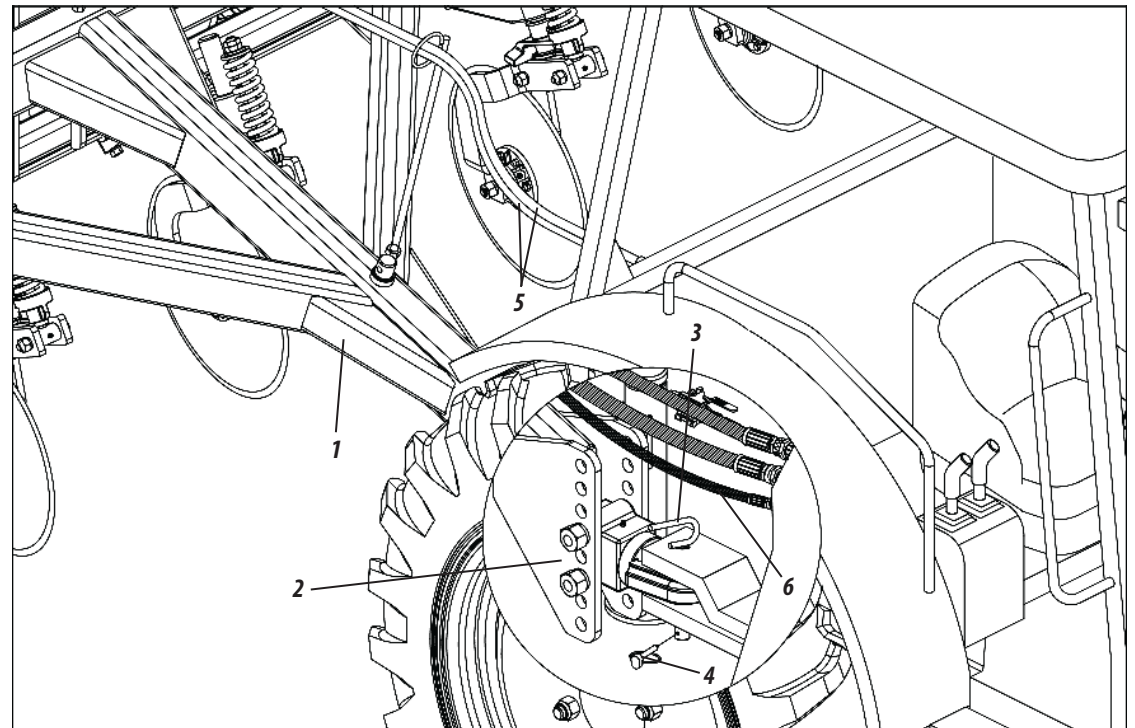

Figure 10
- 04** - Align the coupling header (1) of the seed drill in relation to the tractor through the adjustment (2) of the coupling shackle. Then, slowly move the tractor in reverse towards the seed drill, being aware to the application of brakes.
- 05** - Couple the drill to the tractor by fixing it through the hitch pin (3) and lock (4).
- 06** - Connect the hoses (5) to the quick hitch of the tractor.
- 07** - Finalize connecting the drain hose (6), as shown in Figure 10.